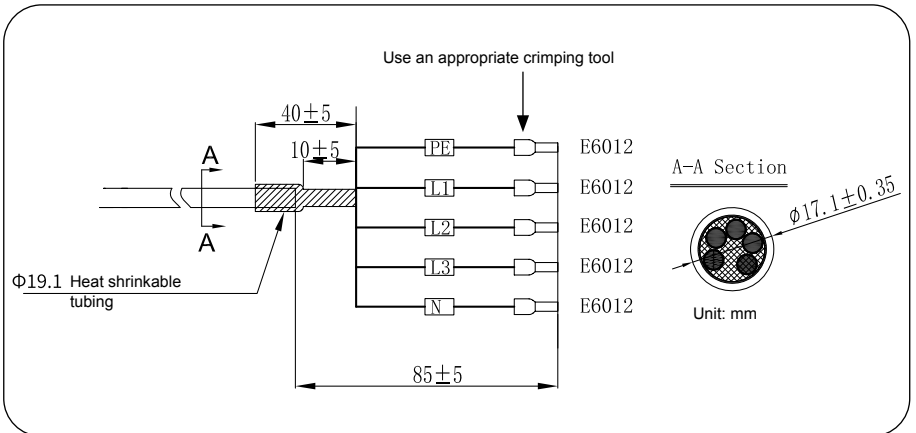

Figure 29
- **A0220400E11 (three-phase)** - 5x6mm2 AC power cables are recommended, prepared as show in Figure 29.